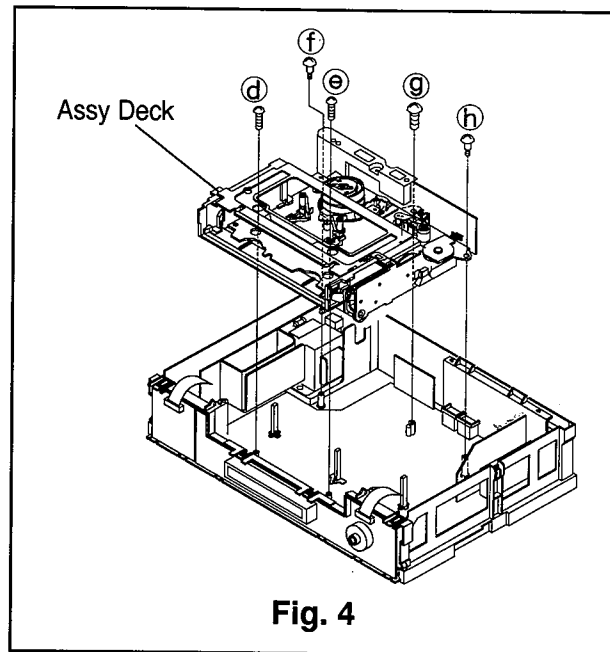

Fig. 4
- ③ Remove the five screws (d~h) holding the Assy Deck, shown in Fig. 4, and disconnect the connector **ML**, **MM** and **ME**.
- ④ Slowly raise slowly the Assy Deck upward to remove it.